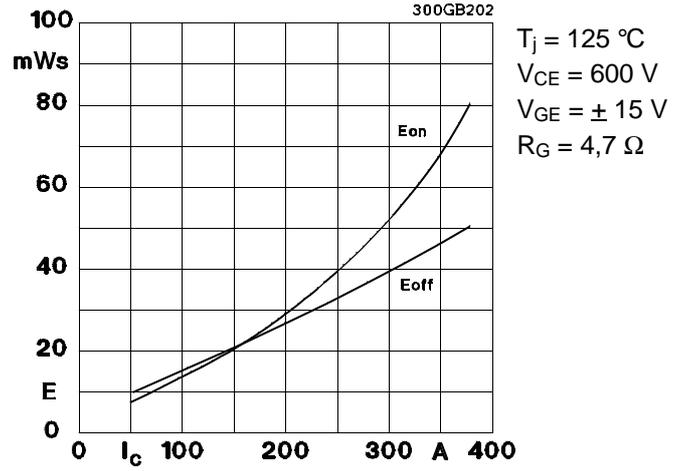

Fig. 2 Turn-on /-off energy =  $f(I_C)$
5) see fig. 2 + 3; RGoff = 4,7 Ω